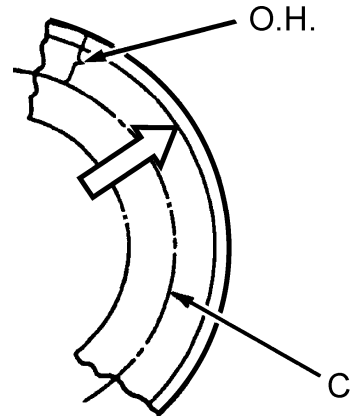

Fig. 14.61. Metal Ring Acceptable for Rebuild
- 1C. The narrow band must be uniform and be concentric with the I.D. and O.D. (see Figs. 14.61 and 14.62).